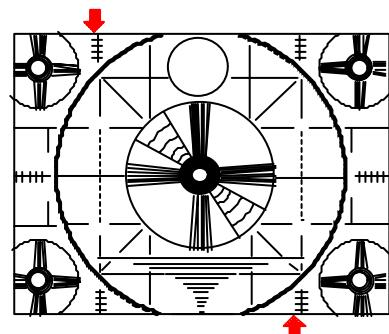

Fig.2-5 NTSC MONO-SCOPE
2. Use the VOLUME + or - key on the remote controller to adjust the upper and lower scales within the range specified in SPEC. (Fig. 2-5)